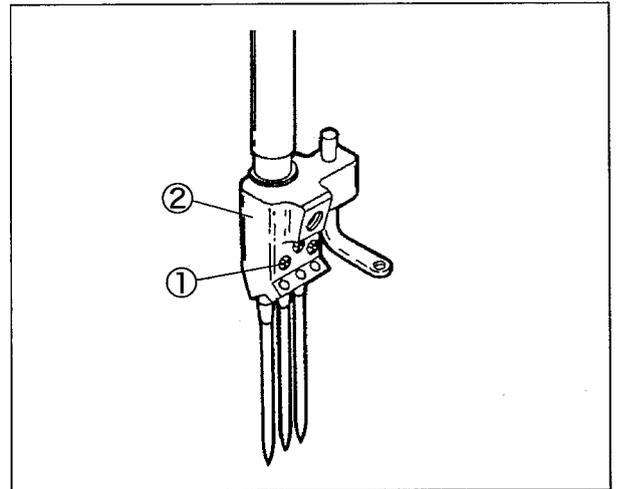
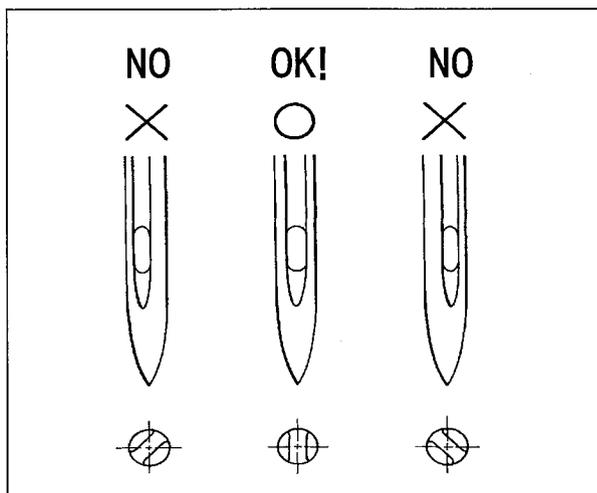

Fig. 5-1
Fig. 5-2
- (1) Loosen the screws ① with a screwdriver. (Fig. 5-1)
- (2) Remove the old needle with a pair of tweezers.
- (3) Insert a new needle deep into a hole of the needle clamp ② so that the scarf of the needle is positioned to the right rear. (Fig. 5-2, 5-3)
- (4) Tighten the screws ① with the screwdriver.